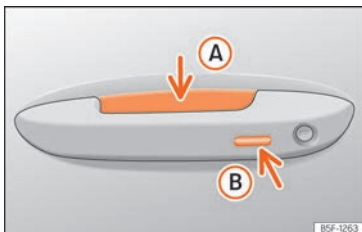

Fig. 90 Door handle: sensor surfaces
»» Fig. 90
- Grip one of the front door handles. When you do this, you touch the sensor surface »» Fig. 90 (A) (arrow) of the handle and the vehicle unlocks.
- Touch (once) the locking sensor surface »» Fig. 90 (B) (arrow) on one of the front door handles. The door that is used must be closed.
- Touch (once) the sensor surface »» Fig. 90 (B) (arrow) on one of the front door handles. The vehicle locks with the "Safe" security system »» page 105. The door that is used must be closed.
- Touch (twice) the sensor surface »» Fig. 90 (B) (arrow) of one of the front door handles to lock the vehicle without activating the "Safelock" security system »» page 105.
» **Fig. 90 B** within the following 5 seconds. Do not grasp the door handle; otherwise the vehicle will not unlock. Deactivation is also possible if the vehicle is locked through the driver's door lock.
To close all the electric windows and the sunroof using the **comfort function**, keep a finger for a few seconds on the locking sensor surface » **Fig. 90 B** (arrow) of the door handle until the windows and roof have closed.
The sensor surfaces on the door handles could engage if hit with a water jet or high pressure steam if there is a valid vehicle key in the proximity. If at least one of the electric windows is open and the sensor surface » **Fig. 90 B** (arrow) on one of the handles is activated continuously, all windows will close.